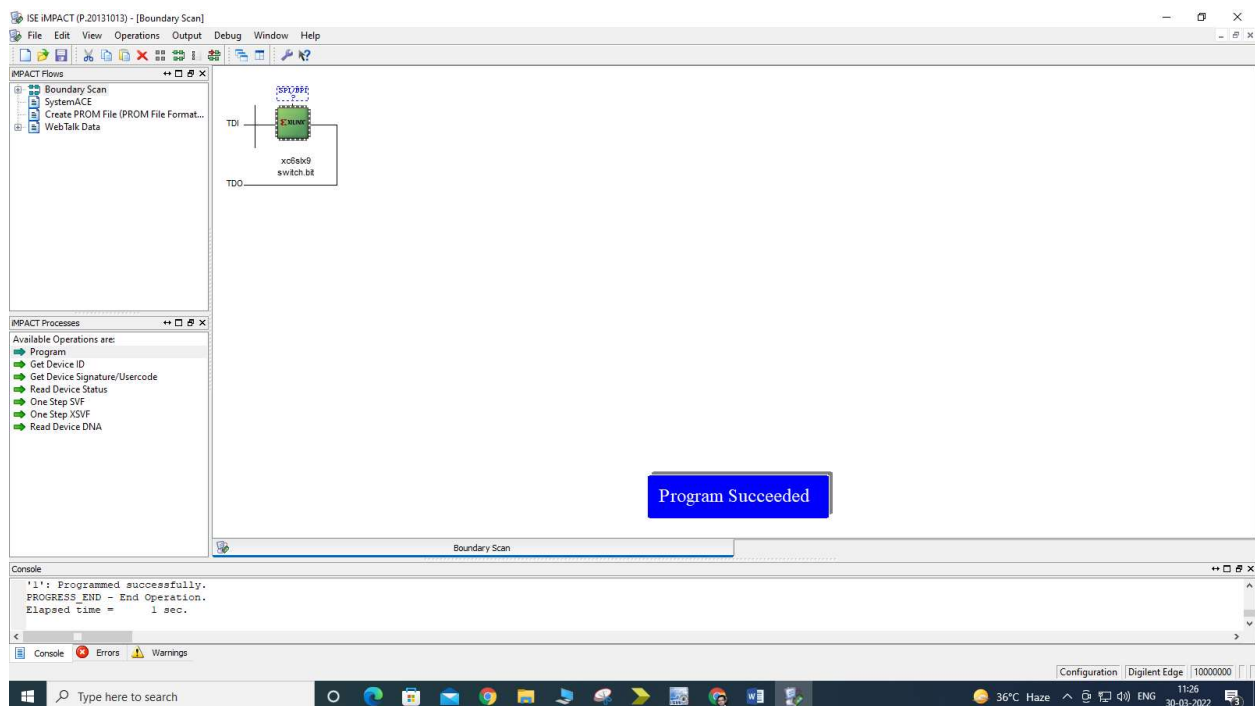
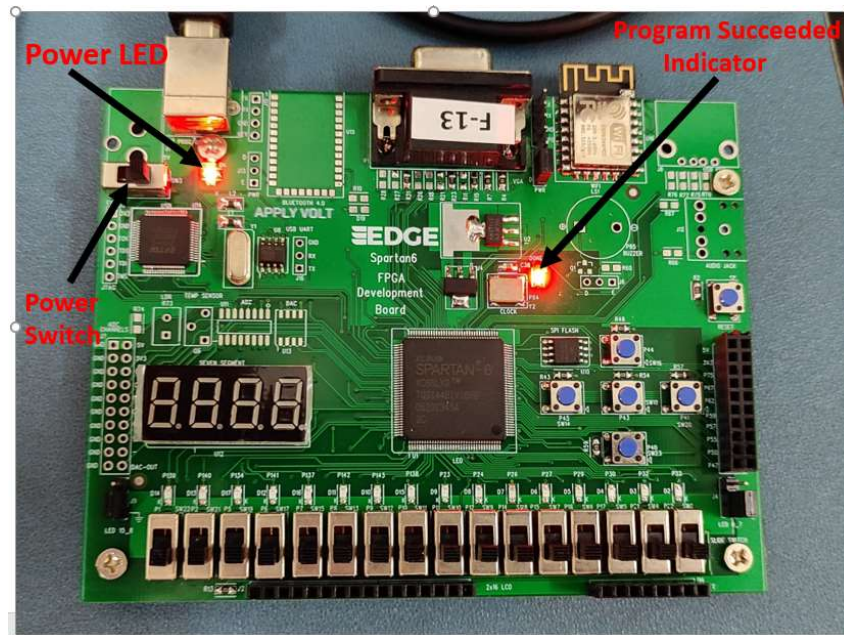

Fig 1.37
Fig1.38
39. When the FPGA is programmed successfully then a message “**Program Succeeded**” will be displayed in the **Status** console at the bottom of the window (Fig 1.37). Also a red LED on the board will glow to indicate that the FPGA has been programmed successfully. (Fig 1.38)